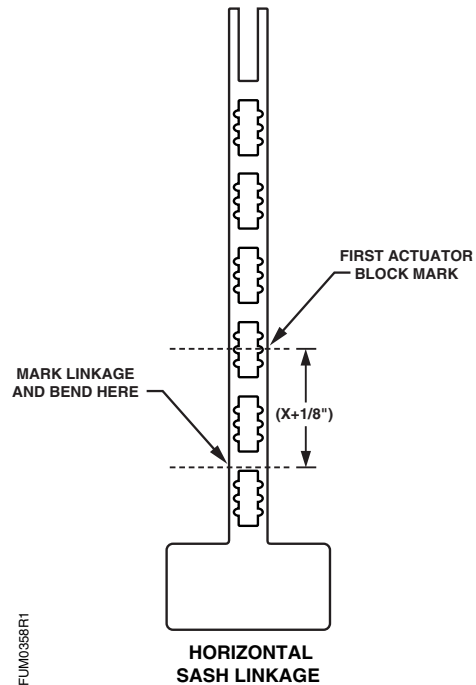

Figure 19. Marking the First Linkage Bend.
5. Using the 1/8 inch + X value, measure from the first actuator car mark toward the mounting plate, mark this location (Figure 19).